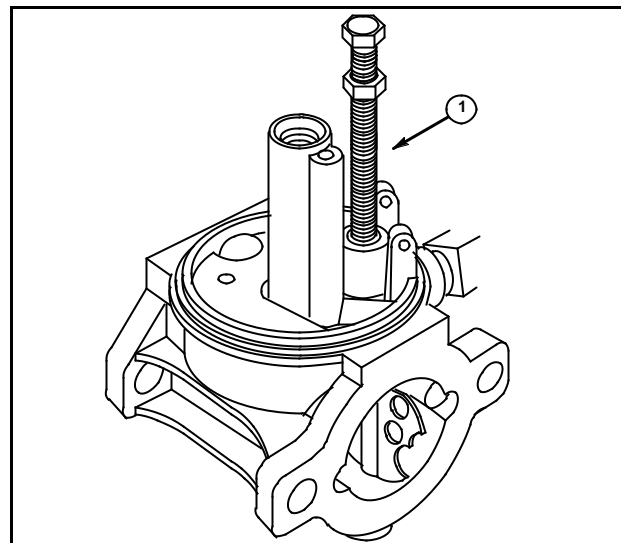
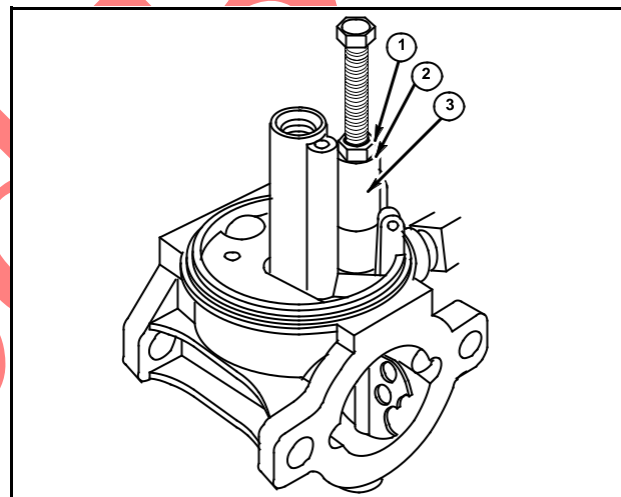

Fig. 100
Fig. 101
2. Thread screw or tap into fuel inlet seat 3-4 turns and remove tool (1), Fig. 100.
3. Place 1/4" x 20 nut (1), Part #92278, and washer (2), Part #224061 from 19332, Tool Kit, onto puller screw.
4. Place a 1/4" drive 3/8" socket (3) over fuel inlet seat.
6. Thread nut against washer/socket and tighten nut to pull out seat, Fig. 101.